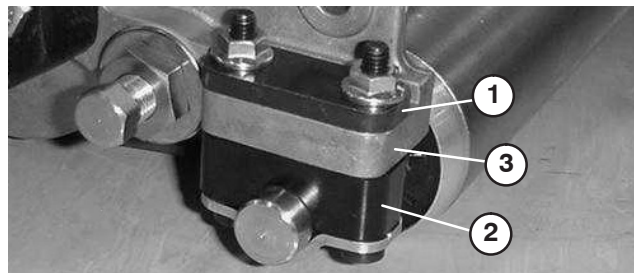

Figure 10
1. Adjust rear roller brackets (Figs. 10 and 11) to low or high position depending on desired height of cut range.
- Position the spacer above the sideplate mounting flange (factory setting) when height of cut settings range from 1/16 to 1/4" (Fig. 10).